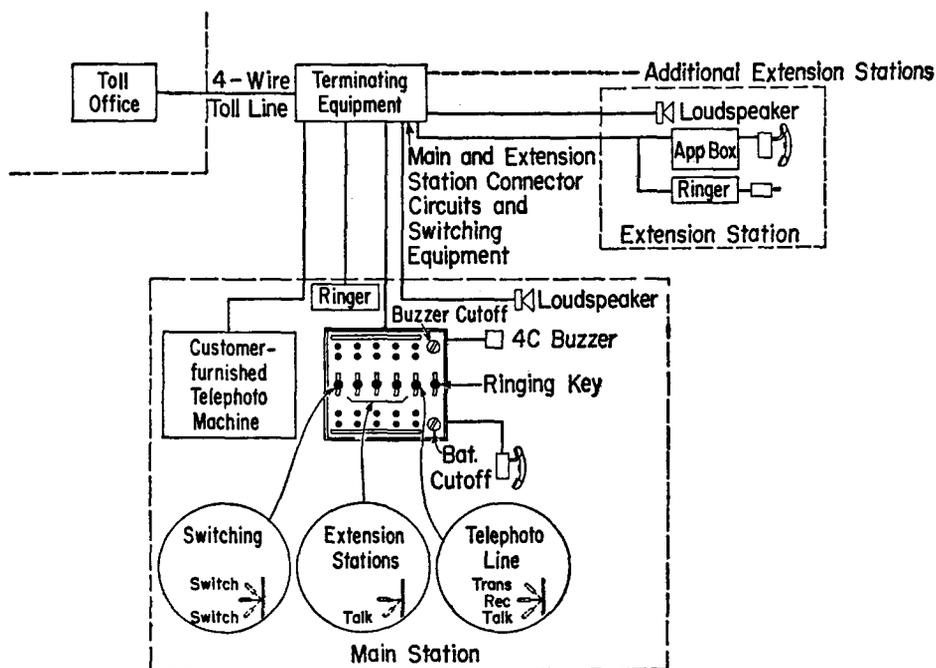

Fig. 1 - Typical 110A Key Equipment Arrangement
2.05 Fig. 1 illustrates a typical 110A key equipment arrangement.